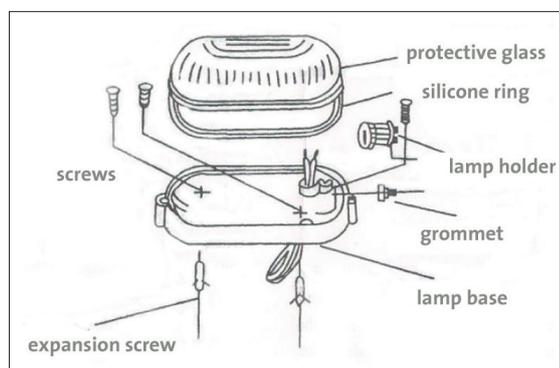

Fig. 1
- Pass the power cable through the safety ring of the lamp holder (see Fig. 1).